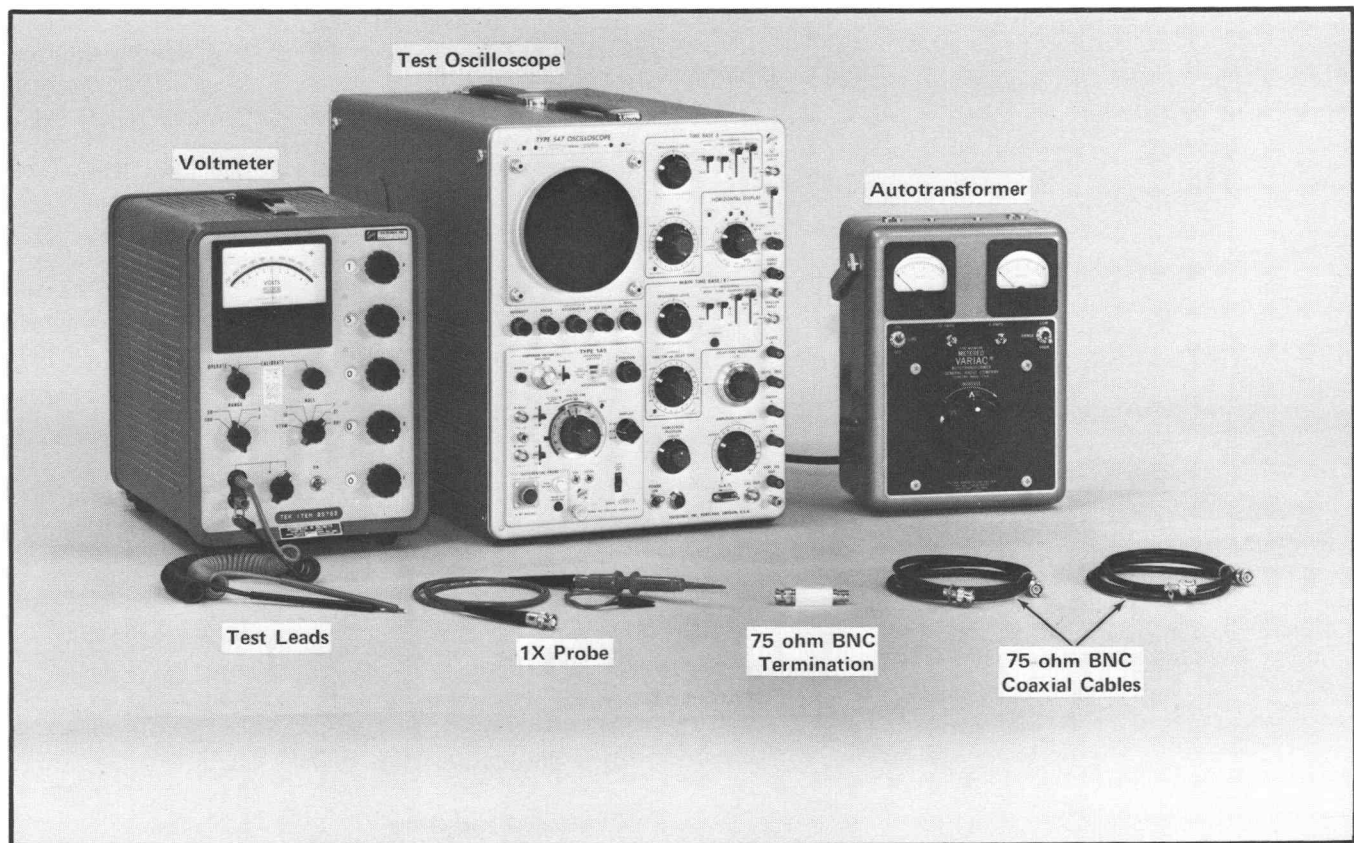

Fig. 5-1. Test equipment required for steps 1 and 2.
In the following procedure, a test equipment setup picture is shown for each major group of adjustments and checks. Near each setup picture is a list of front-panel control settings for equipment which needs to be changed from those given following Fig. 5-1. Since several controls may have changed during a step or group of steps, when performing a partial calibration or performance check, always start with that step following a setup picture. Type 142 front-panel and rear-panel control titles and output connectors are capitalized (e.g., COMP SYNC). Internal adjustment titles are initial capitalized only (e.g., Bar Width). Unless stated otherwise, all connections are made to the Type 142 front-panel connectors.
6. Set the Type 142 and test equipment controls as described following Fig. 5-1.
a. Test equipment is shown in Fig. 5-1.